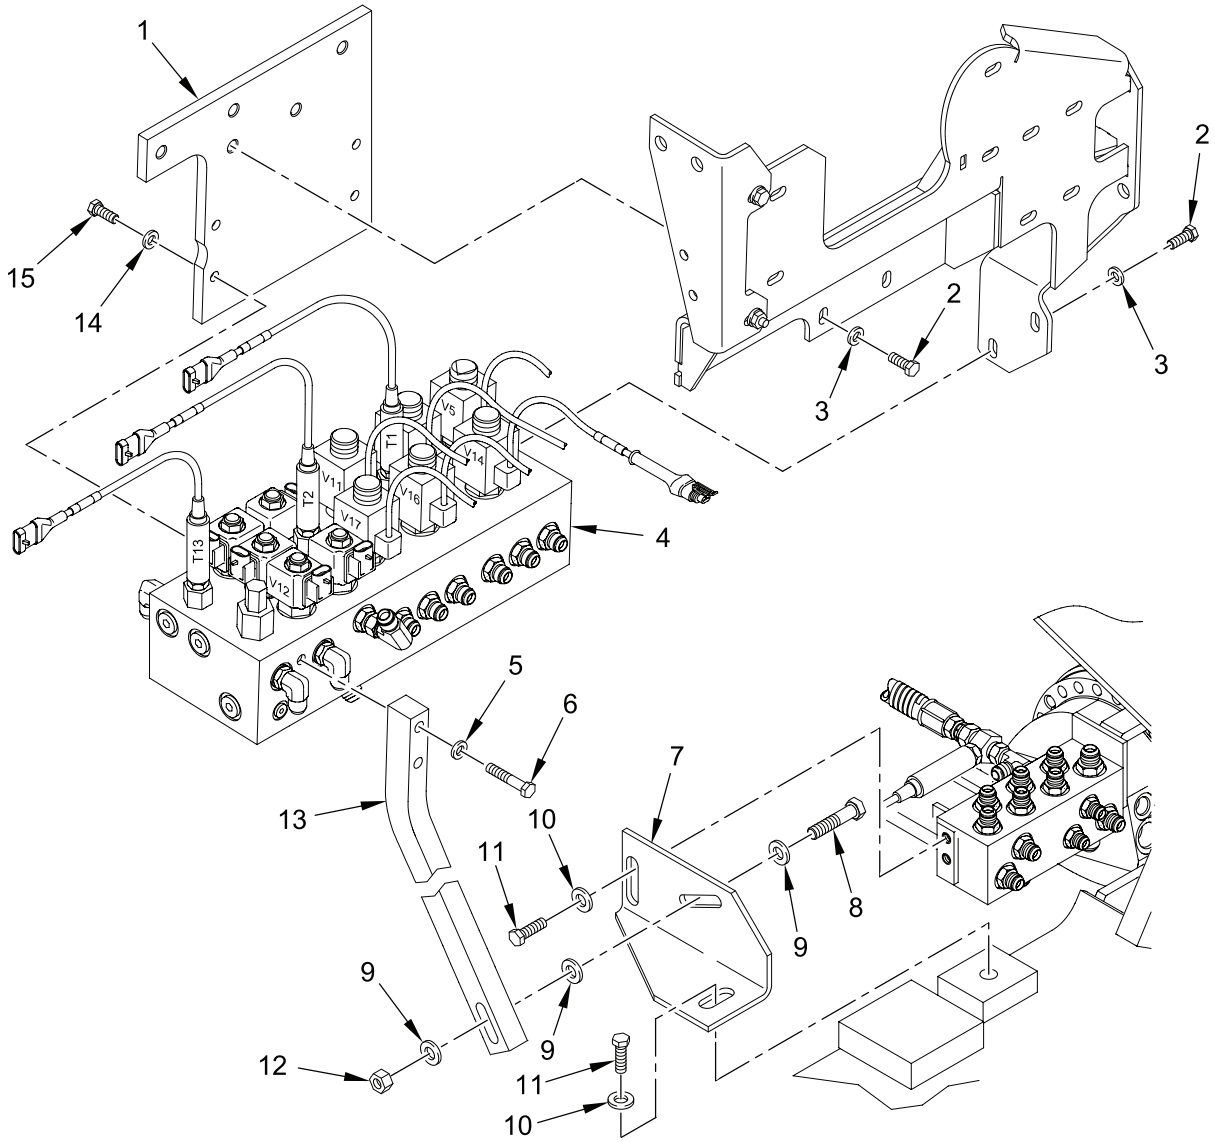

Figure 3. Installing HDC Primary Manifold Assembly and Mounting Bracket
1. Install mounting plate (Figure 3, item 1) on primary manifold (Figure 3, item 4) with four flat washers (Figure 3, item 14) and four new self-locking screws (Figure 3, item 15).
2. Supporting weight of primary manifold (Figure 3, item 4), install primary manifold (Figure 3, item 4) with seven flat washers (Figure 3, item 3) and seven new self-locking screws (Figure 3, item 2).
3. Install hull floor support bracket (Figure 3, item 7) with three flat washers (Figure 3, item 10) and three new self-locking screws (Figure 3, item 11).
4. Install lateral support bracket (Figure 3, item 13) with new self-locking nut (Figure 3, item 12), three flat washers (Figure 3, item 9), screw (Figure 3, item 8), two flat washers (Figure 3, item 5), and two new self-locking screws (Figure 3, item 6).